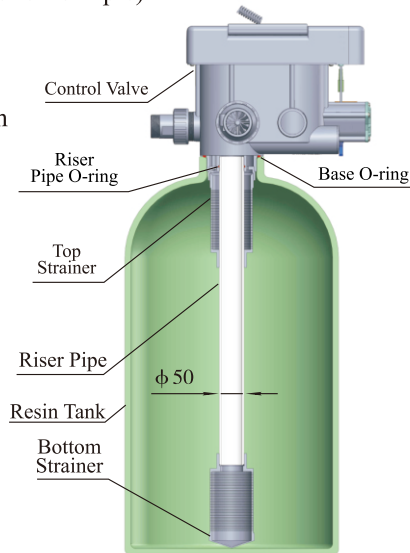

Figure 1-1
①Install control valve
a. As the Figure 1-1 shows, select the riser pipe with 50mm OD, glue the riser pipe to the bottom strainer and put it into the resin tank, cut off the exceeding tube out of tank top opening and rounding. Plug the riser tube in case of resin entering.